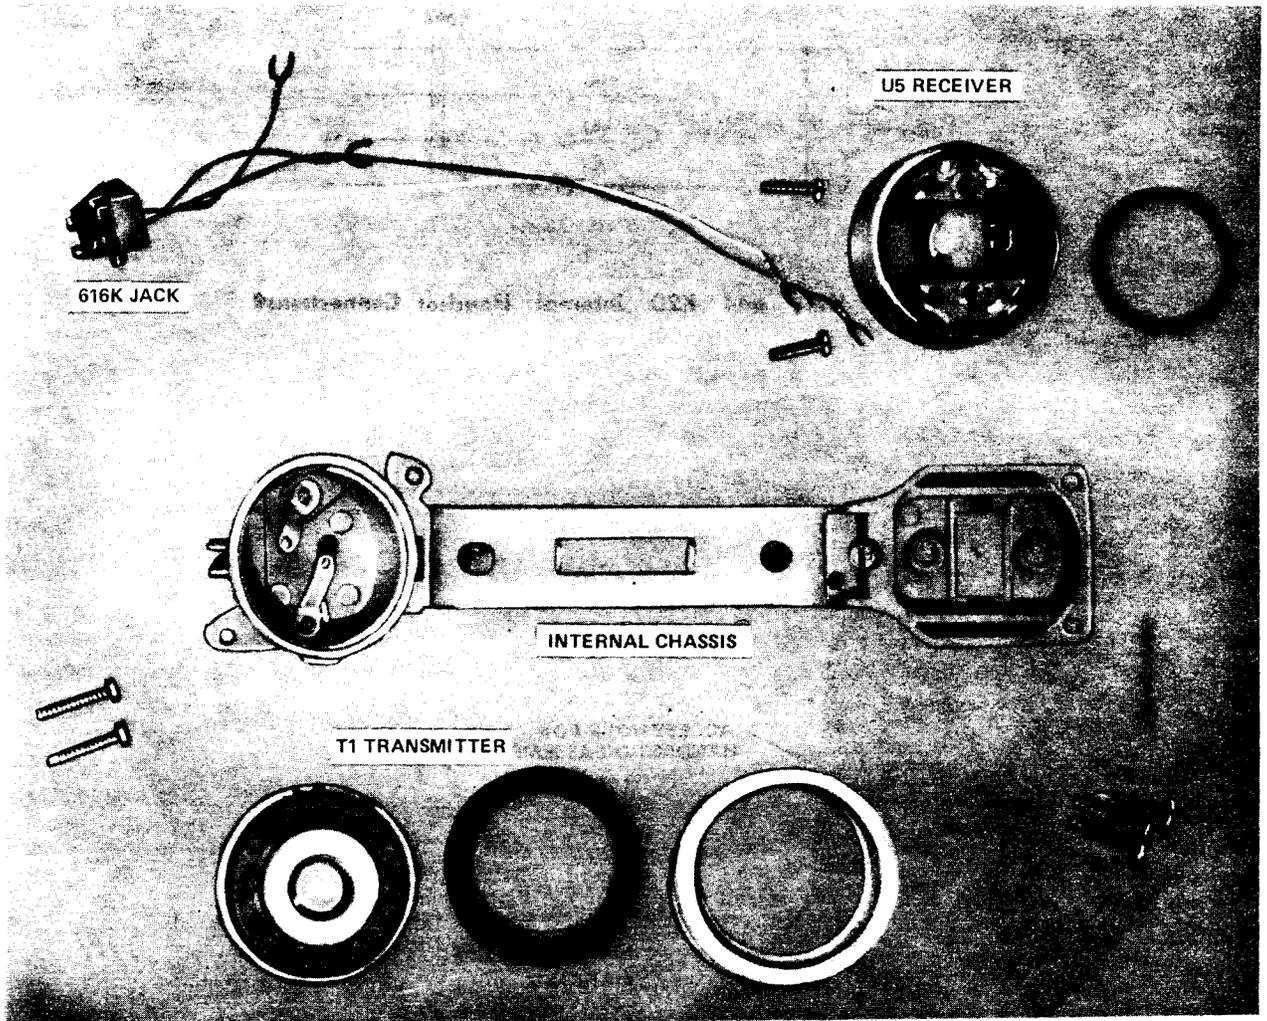

Fig. 3—K2A and K2C Modular Handset Breakdown of Inner Chassis
1.02 This section is reissued to replace Fig. 5, 6, 7, 9; change Fig. 3, 4, 8, 10; and add Fig. 11, 12. Revision arrows are used to emphasize the more significant changes.